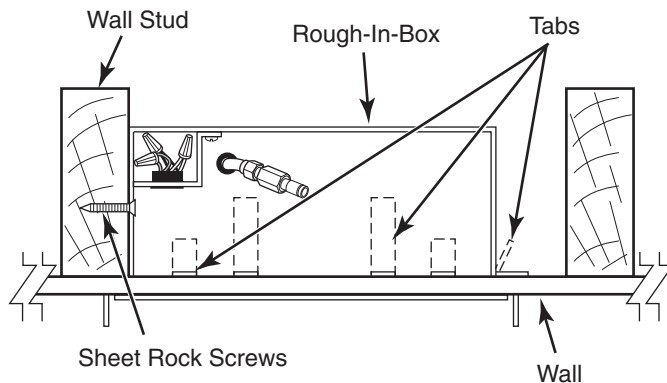

Figure 6.
5. After **sheet rock screws** are in place, gently bend appropriate **tabs** (long or short depending on wall thickness such as tile or granite) as shown on all other areas to finish securing **rough-in box** to wall. Gently slide excess water line back through grommet into wall cavity leaving approximately 1" exposed in rough-in box. See **Figure 6.** and **Figure 7.**